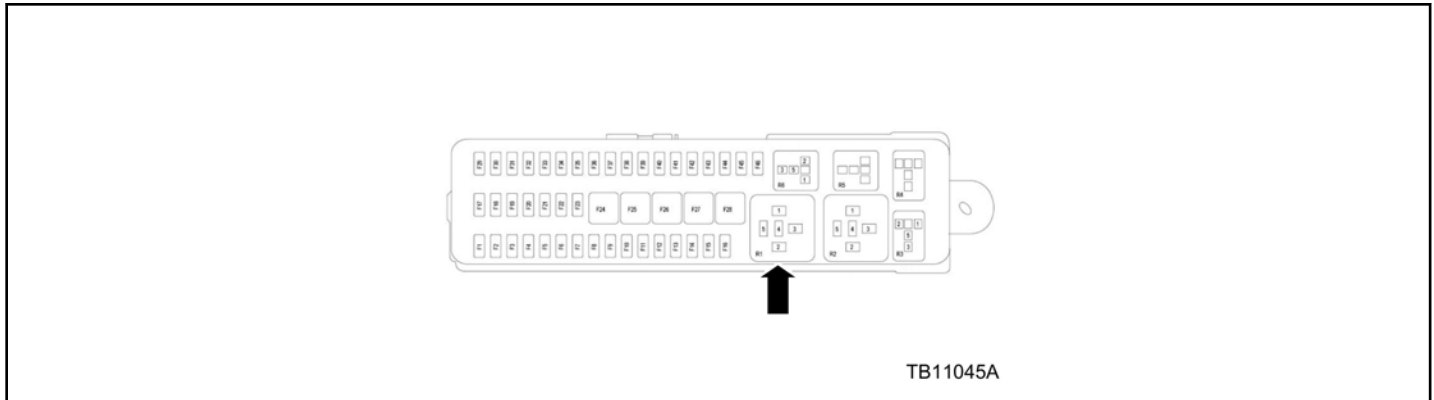

Figure 2 - Article 17-0032
9. Locate the accessory delay relay output terminal 5 in the RJB and using a pick or suitable tool remove circuit CDC40 VT/GY wire. Refer to Wiring Diagram, Cell 11 and 13. (Figure 2)
13. Locate RJB fuse 15 circuit SBR15 WH/RD and using a pick or suitable tool, remove circuit SBR15 WH/RD wire from the RJB. Refer to Wiring Diagram, Cell 11 and 13. (Figure 2)
16. Install the VT/GY female terminal on the service pigtail into the accessory delay relay output terminal 5 in the RJB. Refer to Wiring Diagram, Cell 11 and 13. (Figure 2)